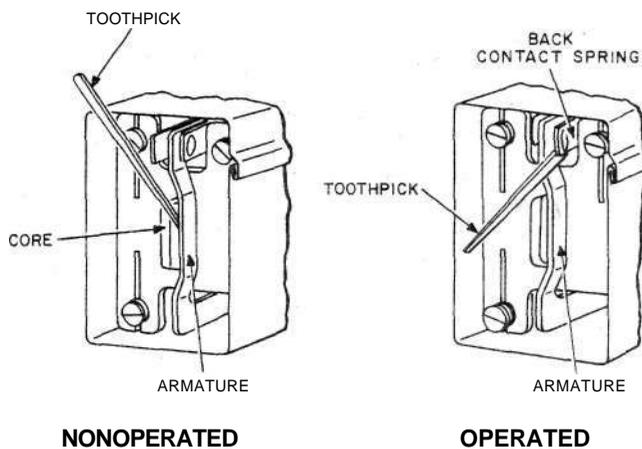

Fig. 4—Blocking B-, G-, and J-Type Relays
**3.02 B-, G-, and J-Type Relays:** Fig. 4—Block relays nonoperated by inserting a toothpick between the core and the armature. Block relays operated by inserting the flat end of a toothpick between the back contact spring or backstop and the upper part of the armature. Take care not to insert the toothpick between the contacts.